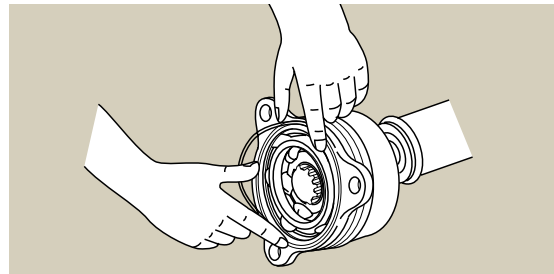

Fig. 4
(4) Cautions for installation work
- For a coupling type, fit the O-ring to a correct position, being careful not to damage it (see **Fig. 4**).